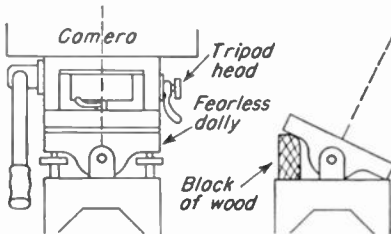

Fig. 4-4. Method of canting the tripod head on the Fearless Panoram dolly.
6. When the Fearless Panoram dolly is used, still another possibility is open. Beneath the panhead on this dolly are two small leveling screws, one on each side. If these are taken out and wood blocks substituted, the leveling can be greatly changed very quickly by changing the blocks. A large block on one side, for example (Fig. 4-4), and none on the other will cant the camera a considerable amount, which, if combined with the image-accelerator effect, is said to be quite useful.